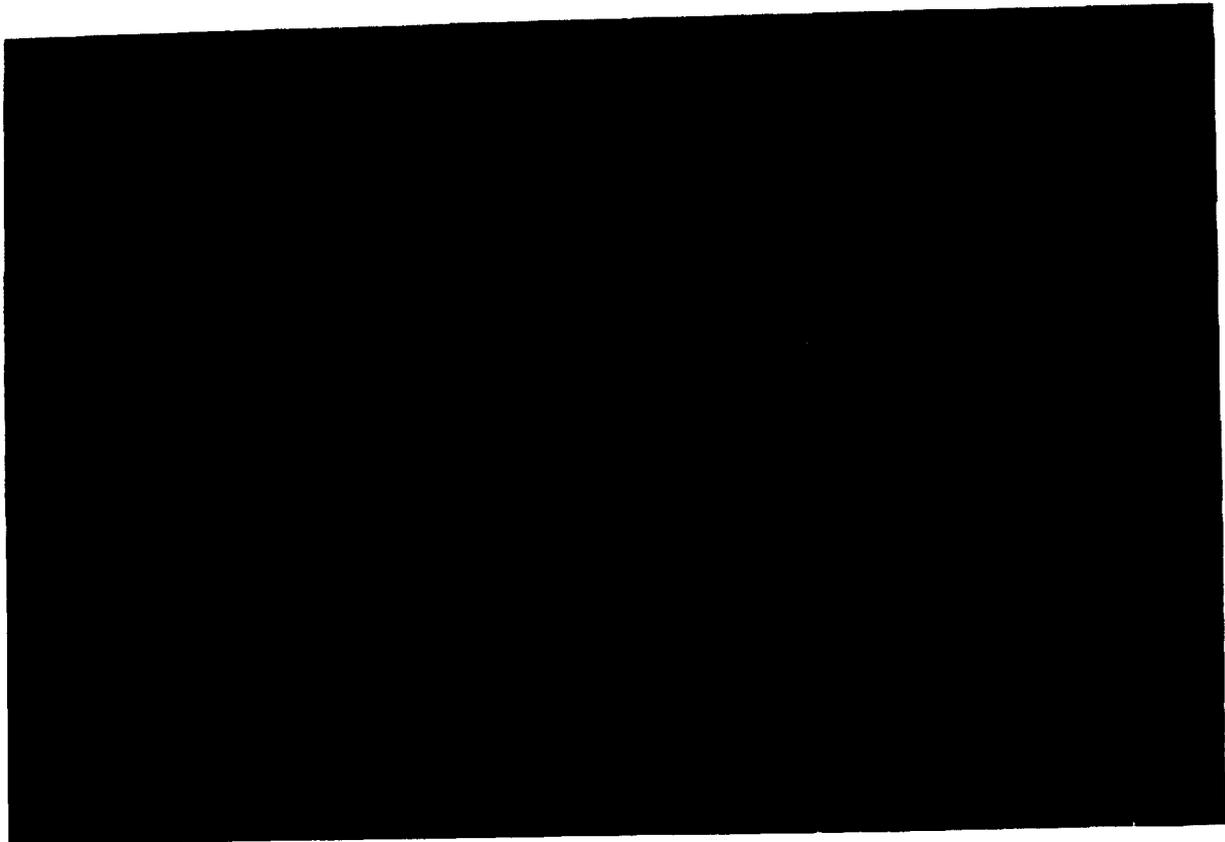

Figure 2-6. Installing telescope XM128.
(1) Remove telescope XM128 from carrying case M87 (stowed in radar chronograph accessories case).
(2) Loosen two screws on right side of telescope guide block.
(3) Press down on telescope mount retaining spring on top of chronograph rear section (fig. 2-6), insert telescope dovetail mount into mating dovetail recess, release spring, and slide telescope forward until locked in position.